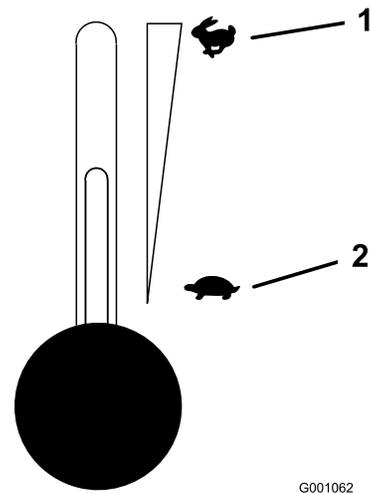

Figure 14
5. Move the throttle lever to the middle position (Figure 14).
- Move the throttle lever midway between the slow and fast positions (Figure 14).